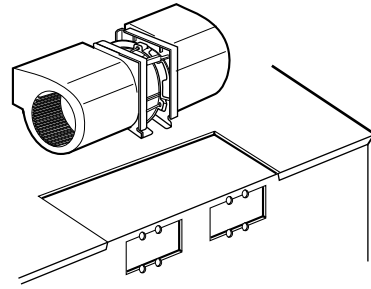

Figure 19
- (1) When mounting the door assembly to the oven assembly, be sure to adjust the door assembly parallel to the chassis. Also adjust the door so there is no play between the inner door surface and oven frame assembly. If the door assembly is not mounted properly, microwaves may leak from the clearance between the door and the oven.
- (3) Carefully pull the ventilation motor assembly out of the microwave oven. (See Figure 19)